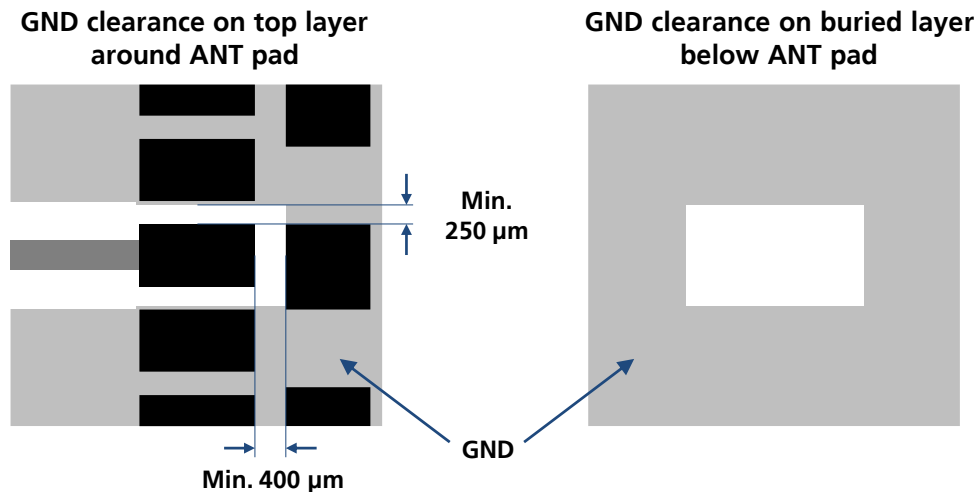

Figure 20: GND keep-out area on the top layer around ANT pad and on the very close buried layer below ANT pad
- Increase GND keep-out (i.e. clearance, a void area) around the **ANT** pad, on the top layer of the application PCB, to at least  $250\ \mu\text{m}$  up to adjacent pads metal definition and up to  $400\ \mu\text{m}$  on the area below the module, to reduce parasitic capacitance to ground, as described in the left picture in Figure 20
- Add GND keep-out (i.e. clearance, a void area) on the buried metal layer below the **ANT** pad if the top-layer to buried layer dielectric thickness is below  $200\ \mu\text{m}$ , to reduce parasitic capacitance to ground, as described in the right picture in Figure 20